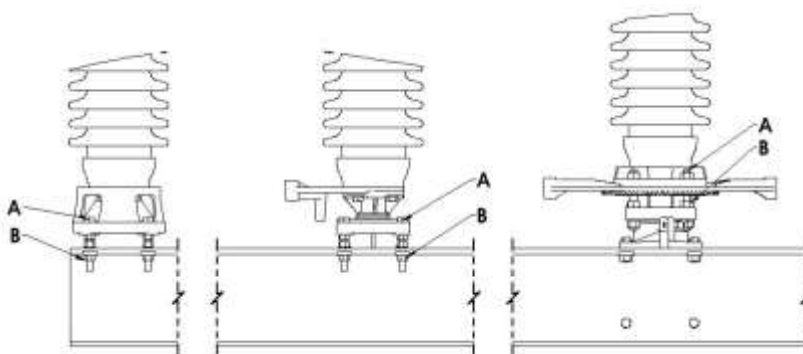

Figure 5: Jack Screw Adjustment Procedure
6. Figure 5 for Jack screw adjustments procedure.